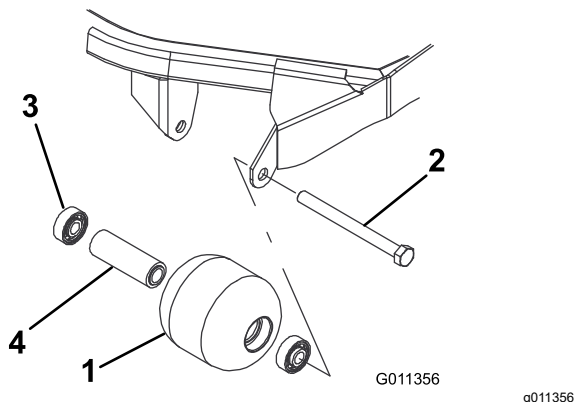

Figure 80
1. Remove the roller-mounting bolt (Figure 80).
1. Press the first bearing into the roller housing (Figure 80). Press on the outer race only or equally on the inner and outer race.
2. Insert the spacer (Figure 80).
3. Press the second bearing into the roller housing (Figure 80). Pressing equally on the inner and outer race until the inner race contacts the spacer.
4. Inspect the roller housing, bearings, and bearing spacer for damage (Figure 80). Replace any damaged components and assemble them.